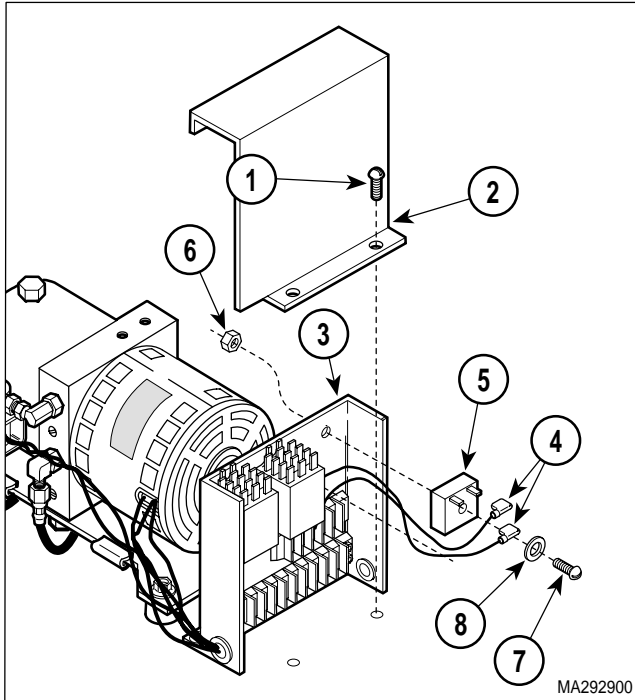

Figure 4-23. Time Delay Relay Removal / Installation
- (1) Unplug power cord from wall outlet.
- (2) Remove motor cover assembly (Refer to para 4.2).
- (3) Remove two screws (1, Figure 4-23) and control cover (2) from control panel (3).
- (4) Tag and disconnect two wires (4) from terminals of time delay relay (5).
- (5) Remove nut (6), screw (7), washer (8), and time delay relay (5) from control panel (3).